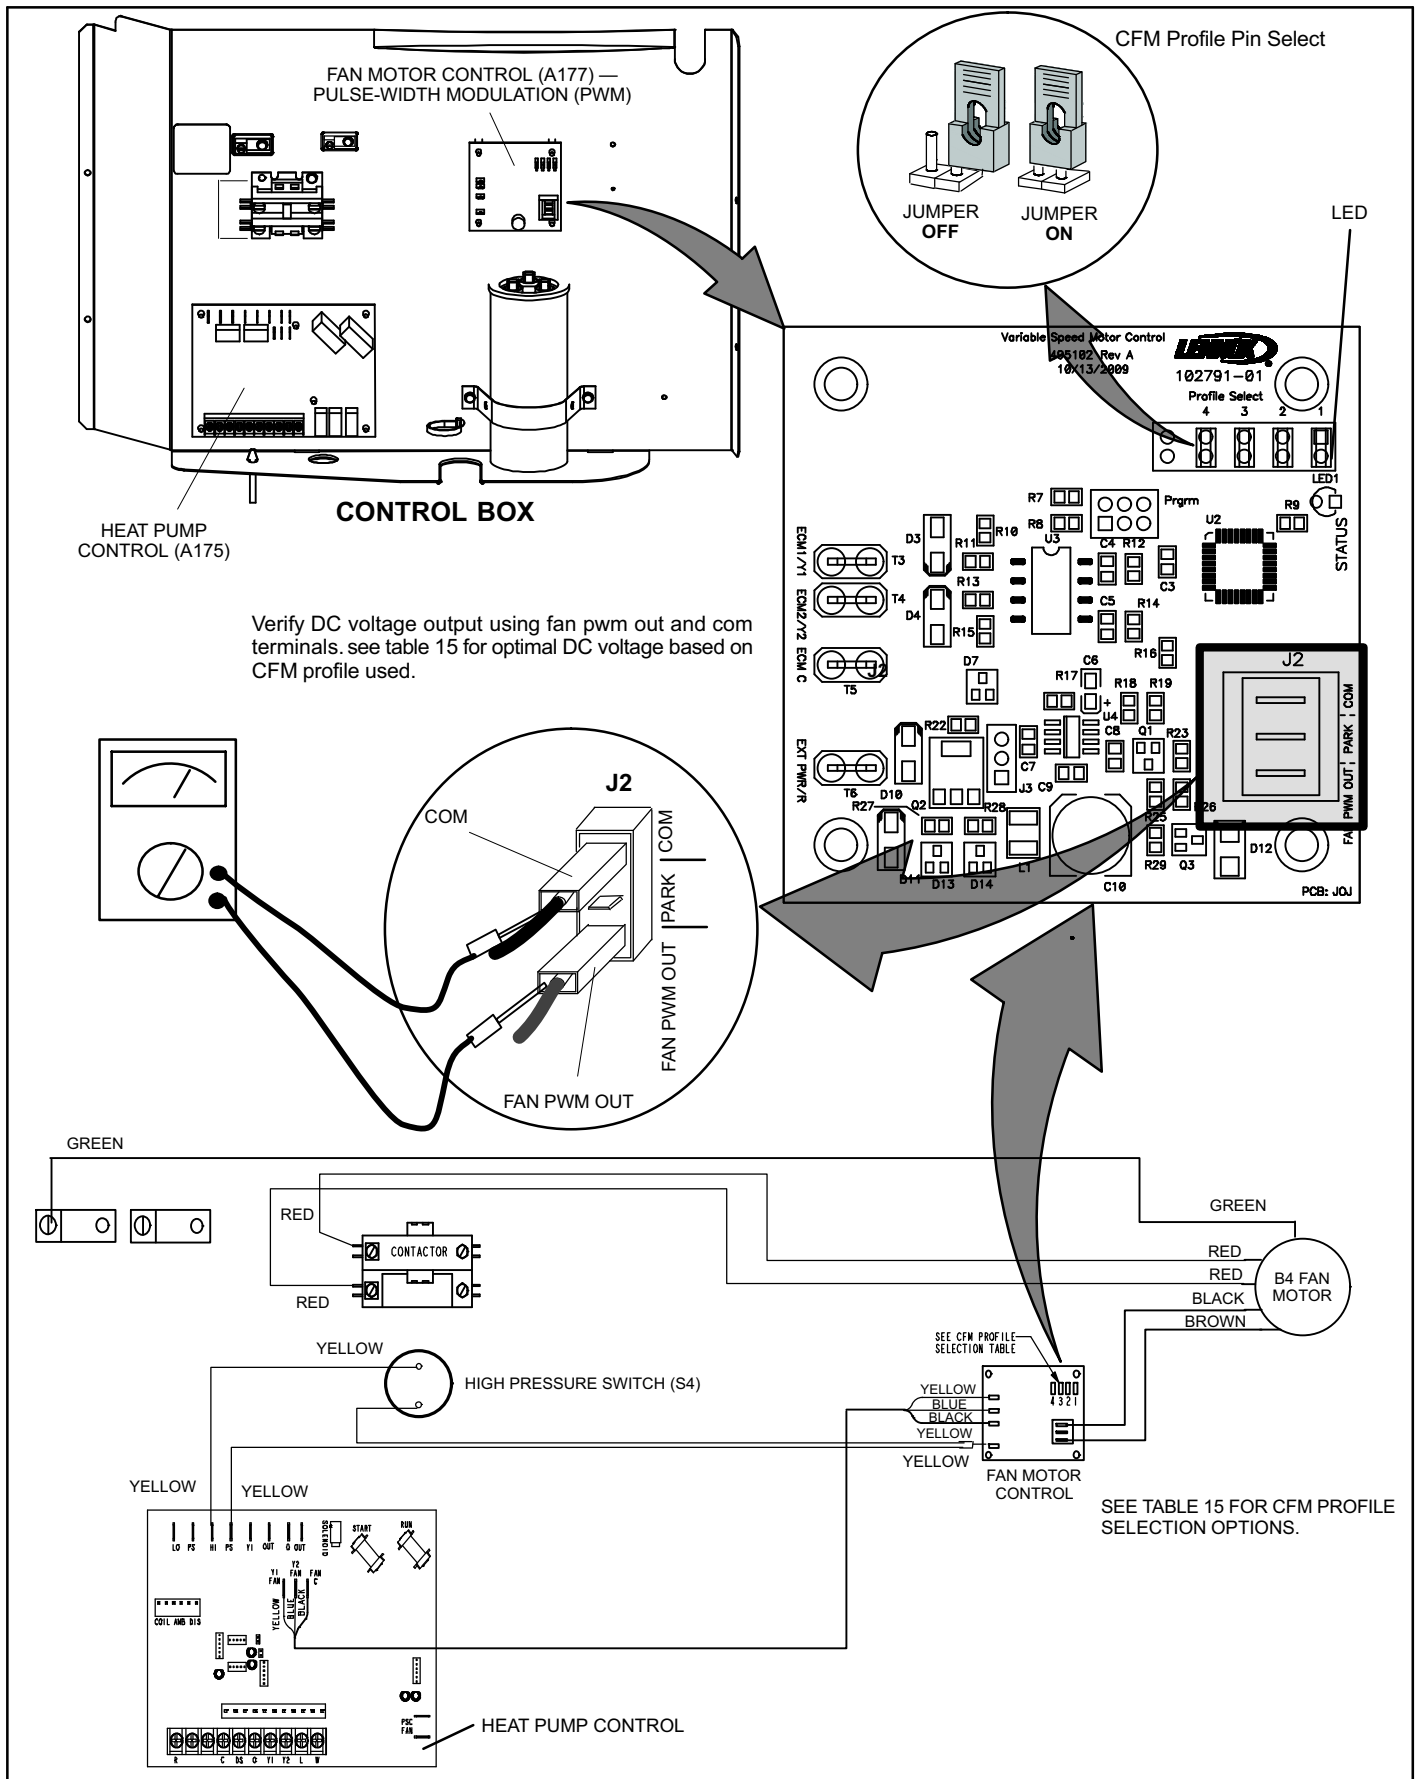

Figure 35. Fan Motor Control, Wiring, Jumper Settings, Testing and LED Location
3. Test DC voltage output on the fan motor control's J2 terminals (see figure 35) while under full load. The actual voltage tested should match the voltage listed in table 15 for the specific unit.